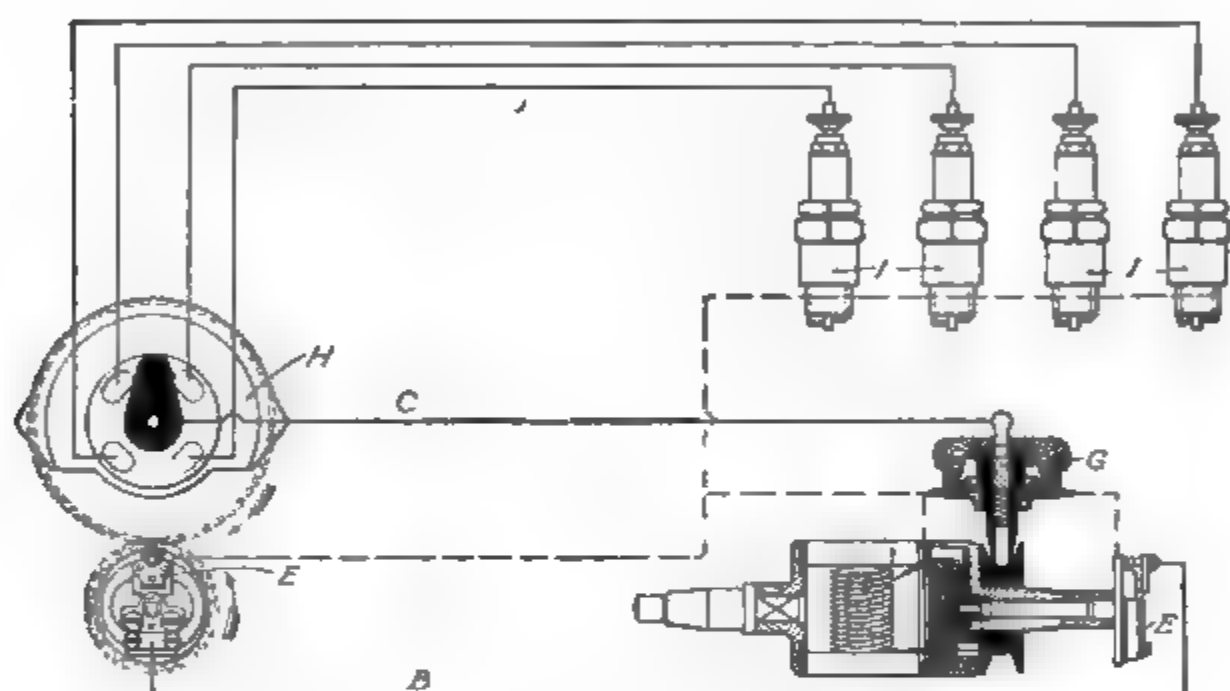

Fig. 66. Wiring Diagram of High-Tension Magneto System
*Typical High-Tension Magneto Circuit.* Fig. 66 is the wiring diagram for a high-tension system, using a true high-tension type magneto. *B* is a wire of the primary circuit. A primary generating coil is in this circuit, being wound on the shuttle type armature; there is also a contact breaker, *E*, which is carried on the same revolving spindle that bears the armature. *C* is a high tension coil wound on the armature, being located in the circuit. The dotted lines indicate the return ground.